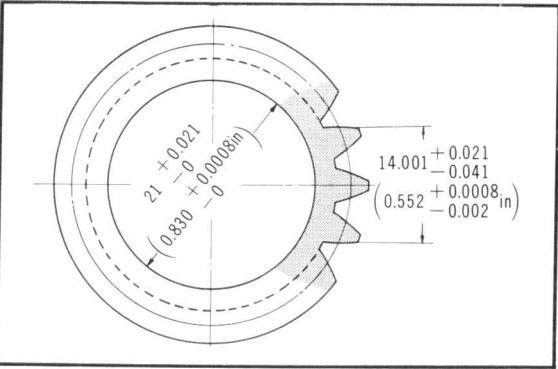

Figure 3-68. Primary drive gear
- (2) Primary drive gear (Fig. 3-68) [] for C50, C50M, S50